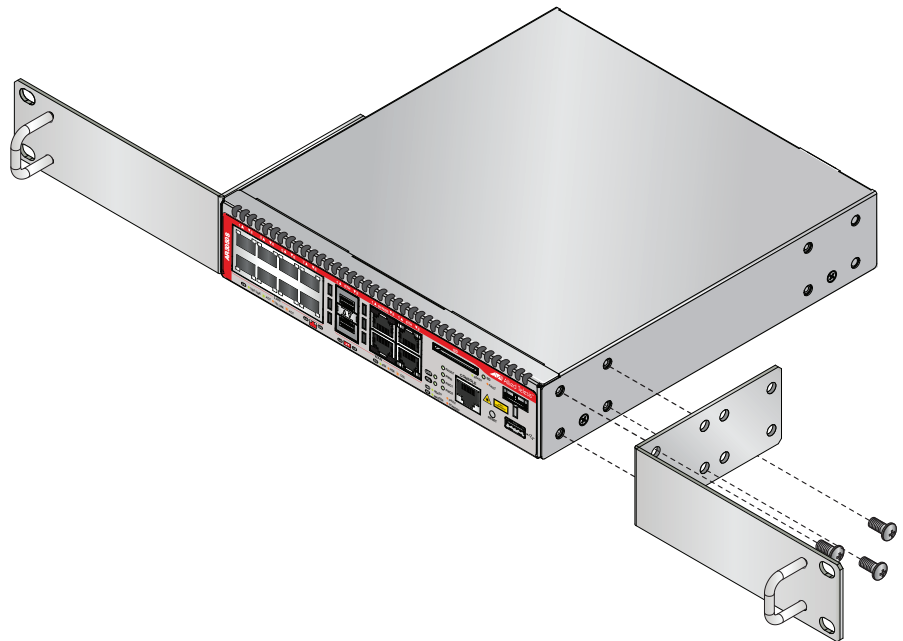

Figure 8. Attaching the equipment rack brackets
5. Use the eight bracket screws to screw the two rack mount brackets to the sides of the router, as shown in Figure 8.